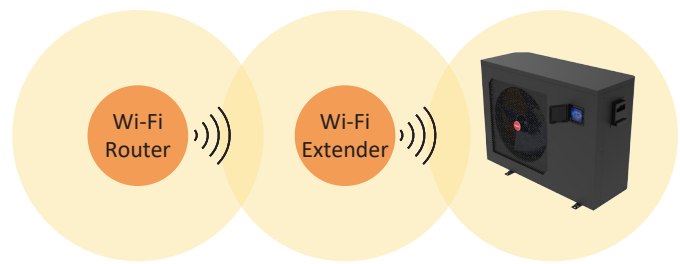

Figure 63. Wi-Fi Extender
- Add a Wi-Fi range extender to cover heater zone or enable a new Wi-Fi access point. See **Figure 63**.